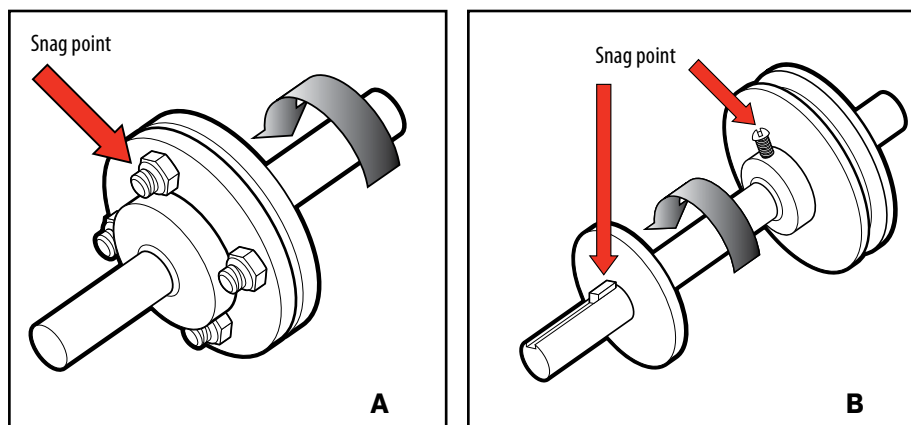

Figure 1.1. Single rotating parts presenting a snagging/entanglement hazard.
- Single **rotating** parts, such as shafts or couplings, present a risk of snagging or entanglement. Two or more parts rotating together, such as feed rolls and V-belt and pulley drives, create nip points (see Figures 1.1 and 1.2).
Figures 1.1 to 1.5 illustrate common mechanical hazards where hands, limbs, hair, clothing, and sometimes the entire body can be injured from harmful contact with unguarded moving machine parts. The illustrations show typical cases, not all possibilities.
- **Power transmission parts.** These are the moving parts of the power train. They usually consist of belts, pulleys, chains, sprockets, gears, shafts, and couplings. Many of the moving parts illustrated in Figures 1.1 and 1.2 are power transmission parts.
The types of machine components and drives shown in Figures 1.1 to 1.5 are very common in most industrial operations. They account for a large number of serious injuries in the workplace.